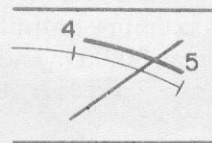

Fig. 11 Meter deflection
12. Set the FM signal generator output to 100dB, and adjust  $VR_2$  for maximum deflection at the signal meter (Fig. 11).